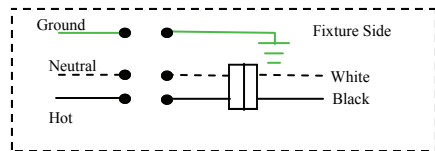

Fig. 1
- Step 3. Install new ballast into existing channel and wire to incoming power per Fig. 1